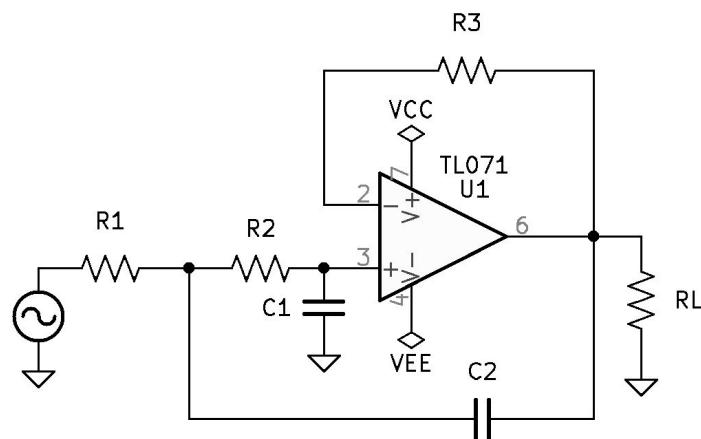

Figure 8.6: Low-Pass Second-Order Active Filtering Circuit.
1. See Figure 8.6 *Low-Pass Second-Order Active Filtering Circuit* on page 90.